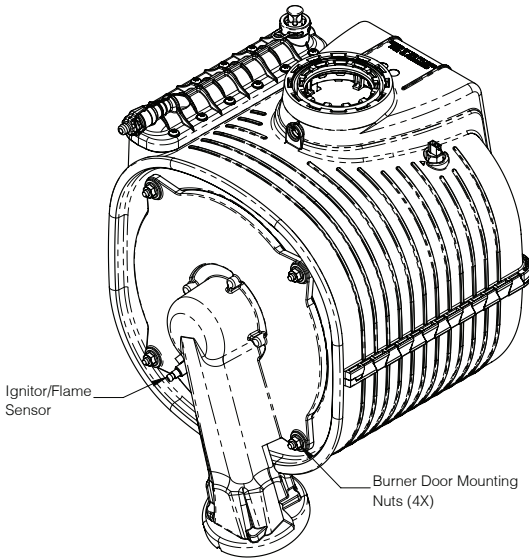

Figure 18-1: Ignitor/flame sensor location
- E. Use a 10 mm wrench to remove four nuts securing burner door to heat exchanger (Figure 18-1). Carefully remove door/blower/gas valve, being careful not to damage the refractory insulation on inside of door (see Refractory warning) or ignitor/flame sensor.